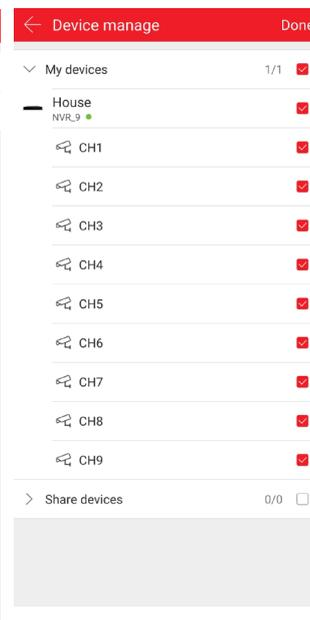

Fig.32
- Check the channels (cameras) from the recorder to be displayed in the application (by default, check all by ticking the "My Devices" box as in Fig. 32). Click on "Confirm" in the main application window to display the image from cameras installed in the recorder.